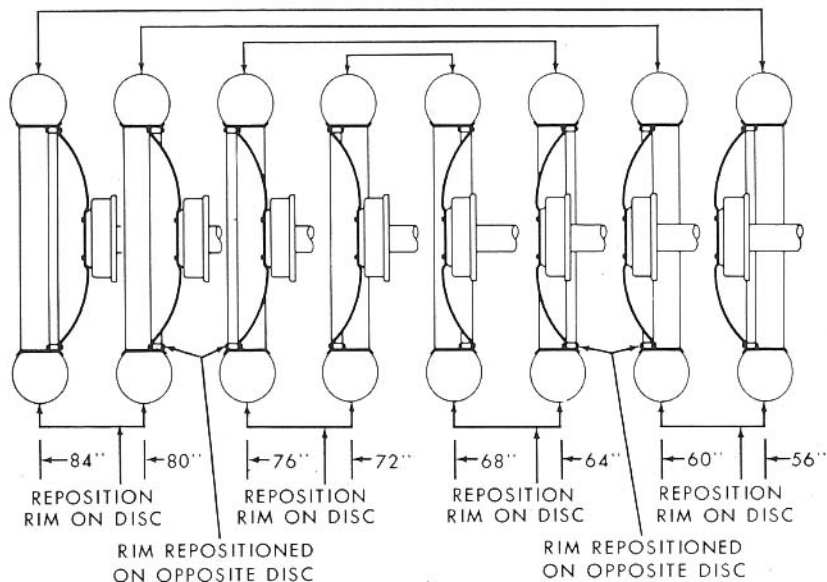

Figure 19
discs and the rims to any of the positions shown in Figure 19. To change from the 56 inch tread width to the 84 inch width, it is only necessary to change the wheels from one side of the tractor to the other. Three other wheel changes are similar as shown at the top of Figure 19.
**NOTE:** *Figure 19 shows only one tractor wheel.*